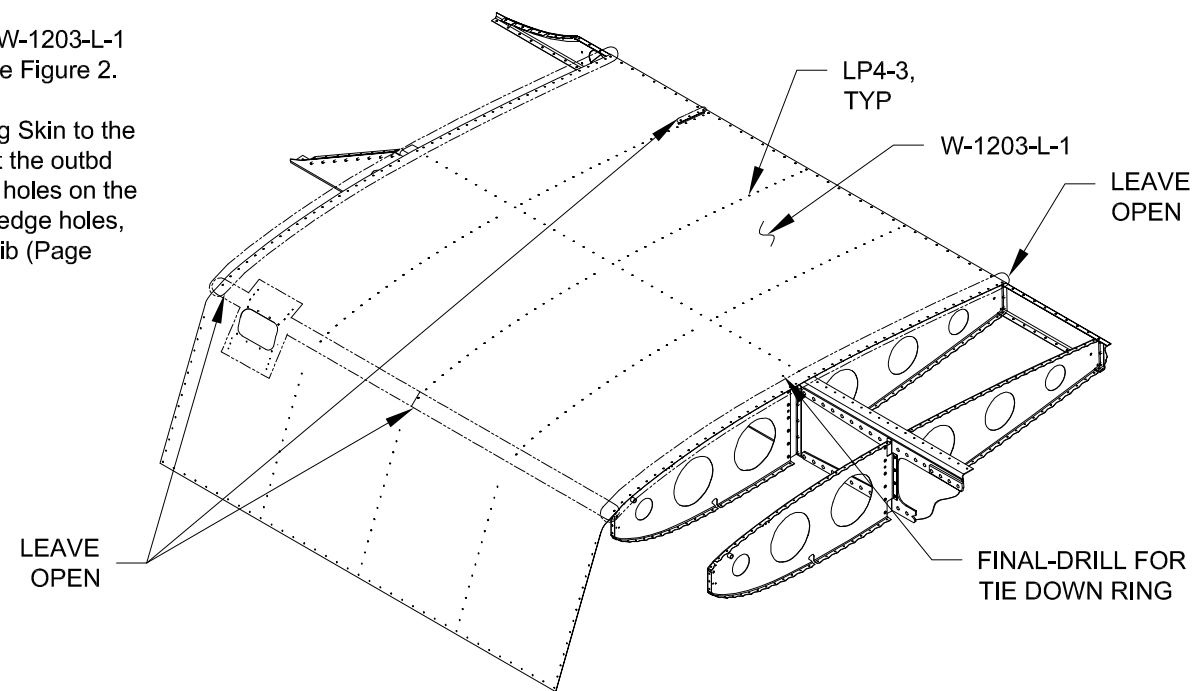

FIGURE 2: ATTACHING OUTBD WING SKIN
Step 8: Final-Drill 3/8 the #30 hole in the W-1203-L-1 Outbd Wing Skin for the tie down ring. See Figure 2.
Step 9: Cleco the W-1203-L-1 Outbd Wing Skin to the wing skeleton as shown in Figure 2. Rivet the outbd wing skin to the skeleton leaving open all holes on the inboard and outboard edges, the leading edge holes, and the holes for the W-1216B-L Hinge Rib (Page 17-03 Figure 2) as shown in Figure 2.
Step 10: Cleco the W-1202-L Mid Wing Skin to the wing skeleton as shown in Figure 3. Rivet the mid wing skin to the wing skeleton leaving open the 1st holes aft of the leading edge and the holes for the W-1216B-L (Page 17-03 Figure 2) as shown in Figure 3.